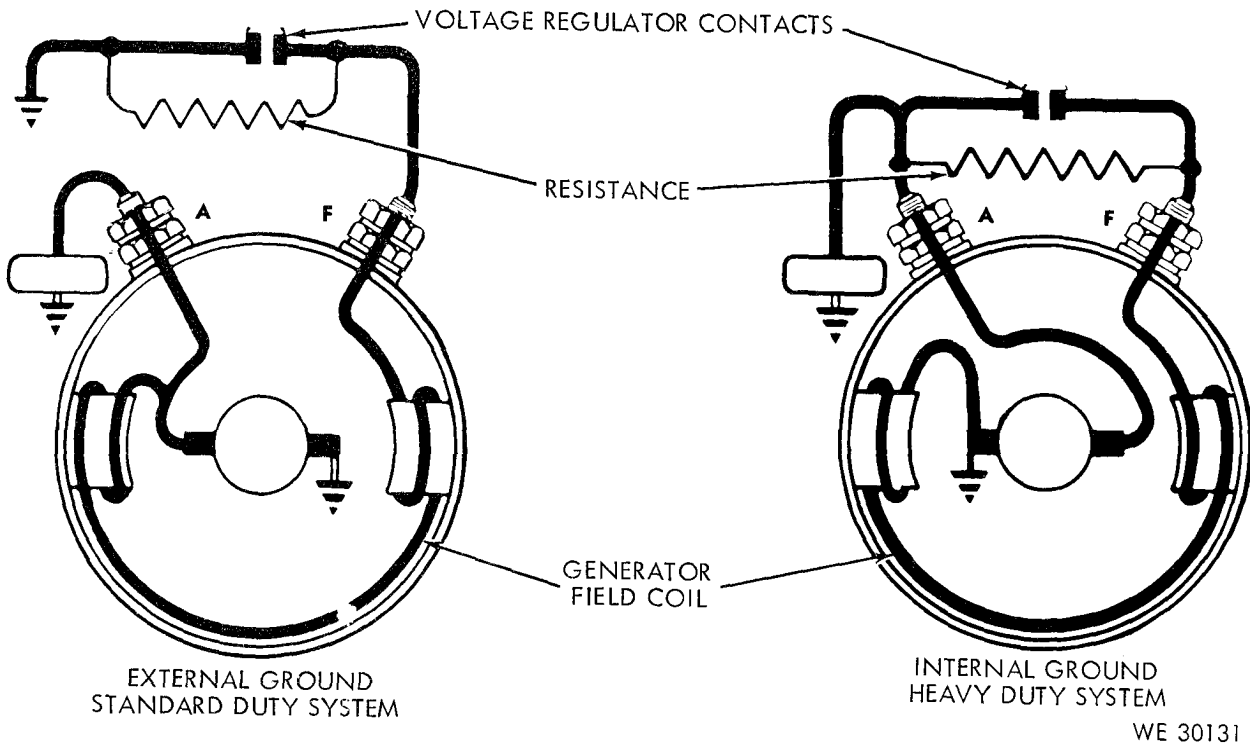

Figure 28. Internal-ground (heavy-duty system) generator field and external-ground (standard-duty system) generator field.
99. Testing and Polarizing Internal-Ground Field and External-Ground Field Generators (fig. 28)
a. General. The generator regulators of automotive generators are either standard-duty or heavy-duty. The difference between the two systems is the method of grounding the field coil of the generator (fig. 28). In standard-duty generator regulators, the generator field coil is externally grounded, whereas, in the heavy-duty generator regulator, the generator field coil is internally grounded. For details for preparing the test stand for these two types of grounded generators and for polarizing instructions refer to *b* through *d* below.
(a) *Internal ground field type (heavy duty system) (fig. 28.)* Mount the generator regulator on the vehicle
- (b) *External ground field type (standard duty system) (fig. 28).* Mount the generator regulator on the vehicle and connect a jumper lead momentarily between the "ARMATURE" and "BATTERY" terminals of the generator regulator (relay on third brush generators) after leads have been reconnected but before the engine is started. This allows a momentary surge of current to flow through the generator so that it is correctly polarized.